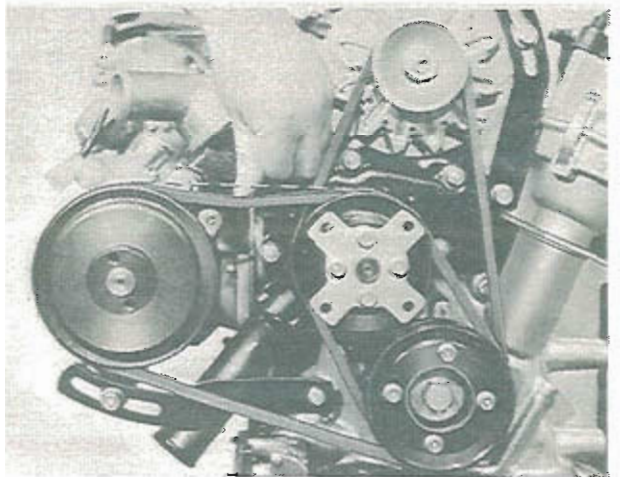

Fig. 1-98 Adjusting air pump belt
5. To adjust the "V" belt tension, push the "V" belt with about 10 kg (22 lb) as shown in Fig. 1-98. The belt deflection should be 10 mm (0.39 in). On the new belt, it should be 8 mm (0.31 in). After adjusting, tighten the bolts and nuts.